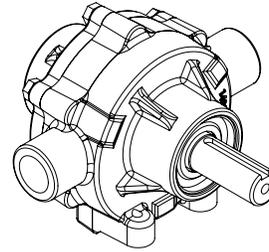

Figure 6
3. Orient shaft keyway at 12 o'clock as shown in Figure 6.